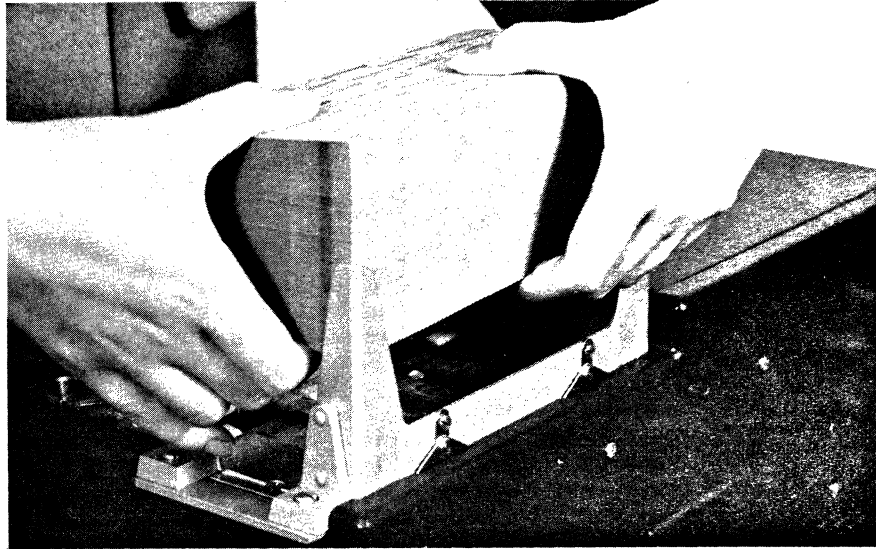

Figure 5-7. Transferring Aligned Deck to Reader Hopper
- 2) Using both hands as shown in Figure 5-7, transfer the squared deck to the reader hopper without destroying the alignment. The proper card position is face down with the nine edge (bottom) toward the rear of the reader.